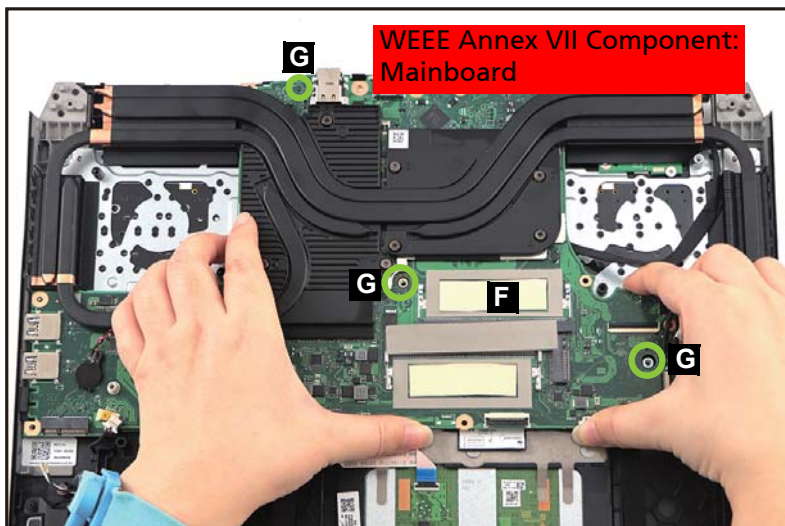

Figure 1-28. Mainboard Removal
7. Lift to release the mainboard with the heatsink (F) from the guide pins (G) on the top assembly but DO NOT remove yet! (Figure 1-28).